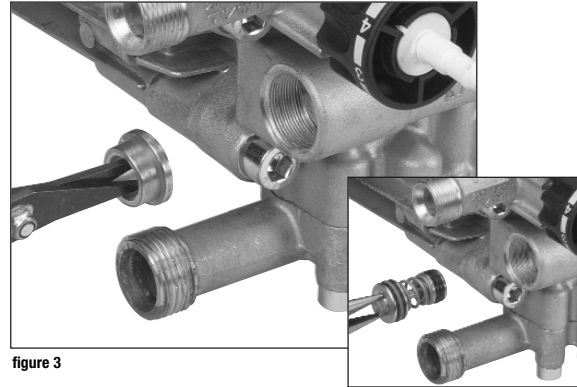

figure 3
2. Remove brass bushing. (figure 3)
3. Pull out bypass valve. (inset figure 3)